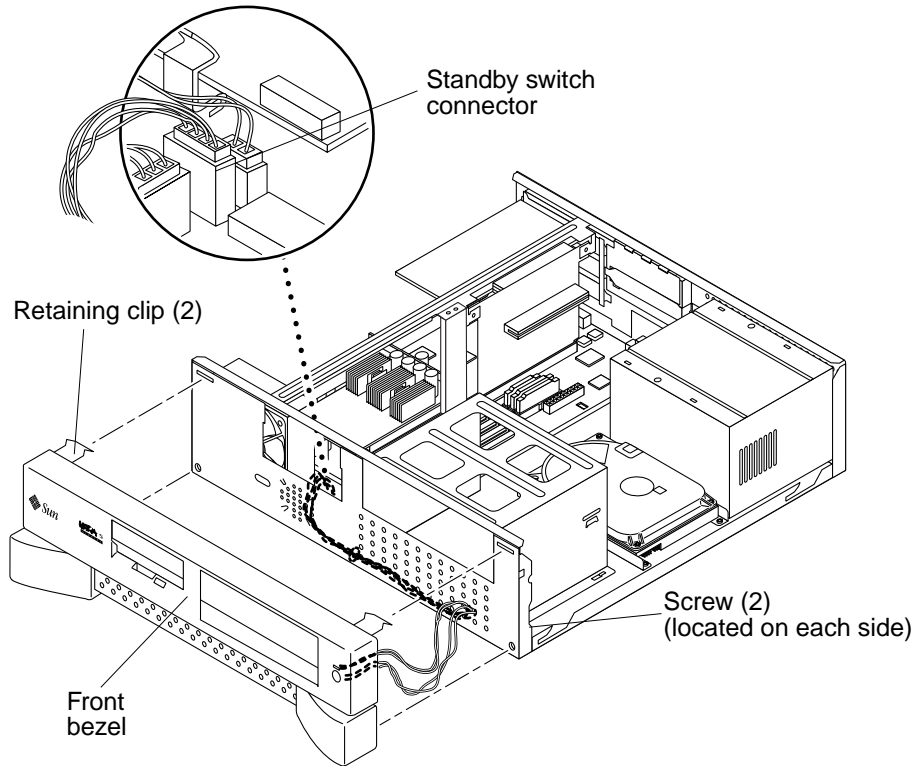

FIGURE 6-8 Removing and Replacing the Front Bezel
2. **Remove the front bezel as follows (FIGURE 6-8):**
1. Replace the front bezel as follows (FIGURE 6-8):